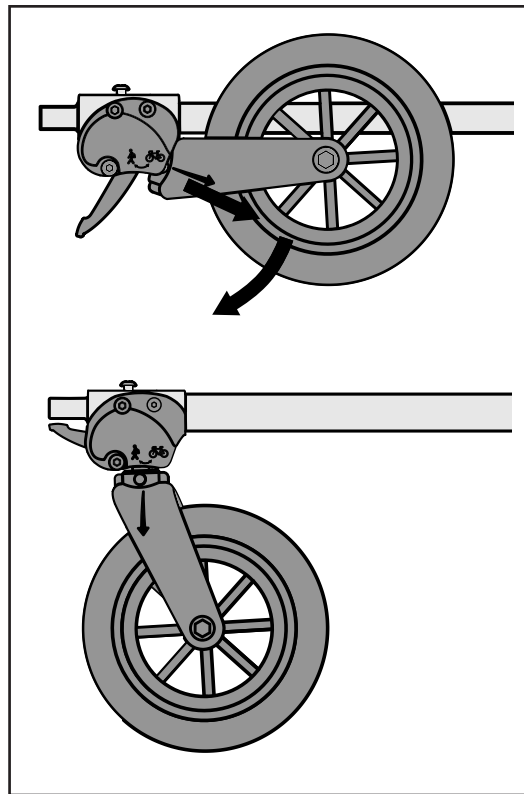

Figure 12
1. Pull fork as shown (Figure 12), then rotate wheel down fully. Fork will automatically secure into the locked position.